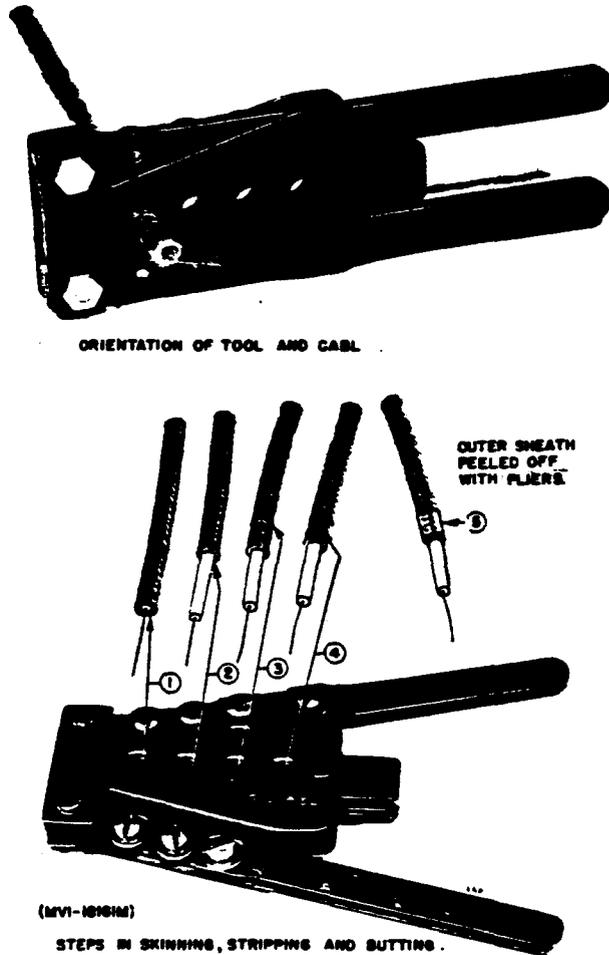

FIG. 4 USE OF COAXIAL CABLE STRIPPER (PARS. 4.21, 4.214, 4.511)
4.214 In using the stripper (refer to Figure 4), it should be held tightly closed while rotating it at least 180°, in steps 1 to 3, to assure a complete cut around the cable. In Step 2 particularly, it is important that the tool be oriented as shown, since this places the stripping pressure against the beveled edge of the blade. This, together with slight easing of closing pressure on the tool when stripping, will avoid scraping the dielectric.